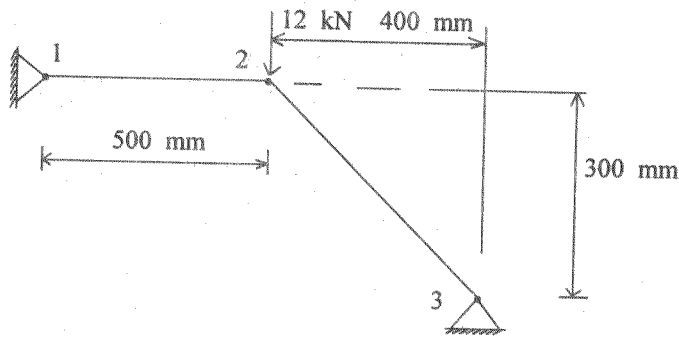

Fig. 2
12. Determine the displacements of node 2 and the stress in the element 2 for the two-bar truss shown in Fig. 2. Area of cross-section of each element is  $A = 200 \text{ mm}^2$ ,  $E = 70 \text{ GPa}$ .